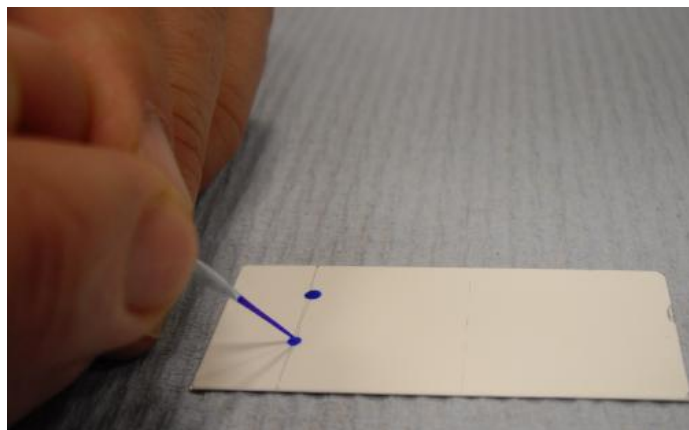

Figure 3. Repeat spotting of the plate
5. Repeat this process by making a second spot on the same plate to ensure you have mastered the technique (Fig. 3)!